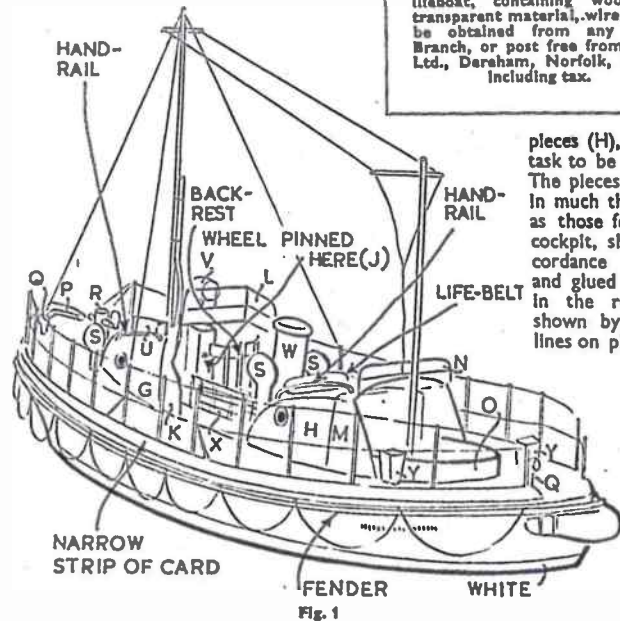

Fig. 1
(C) on the design sheet. The position of this and other parts of the superstructure can also be seen in Fig. 1, and the side view on the design sheet, and these drawings should now be used constantly for reference as the model is built up.
Piece (O), which forms a coaming round the remainder of the rear well (see Fig. 1) is next cut from thin card and glued into position, and the main cockpit assemblies are complete.